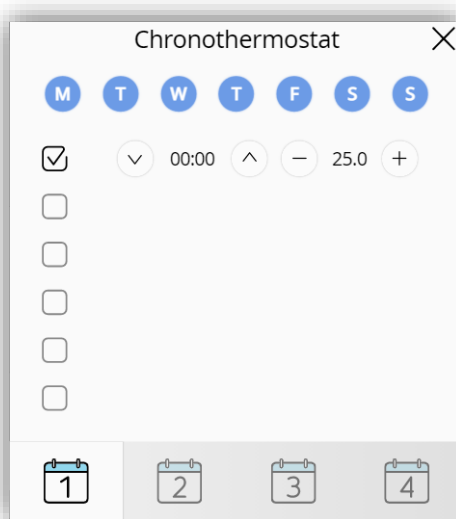

Figure 85. Chronothermostat panel
- **Minimum Setpoint Value** [-99 ... 18 ... 199][°C]: minimum setpoint value that the user can be set on the chronothermostat panel (see Figure 85).
- **Maximum Setpoint Value** [-99 ... 30 ... 199][°C]: maximum setpoint value that the user can be set on the chronothermostat panel (see Figure 85).